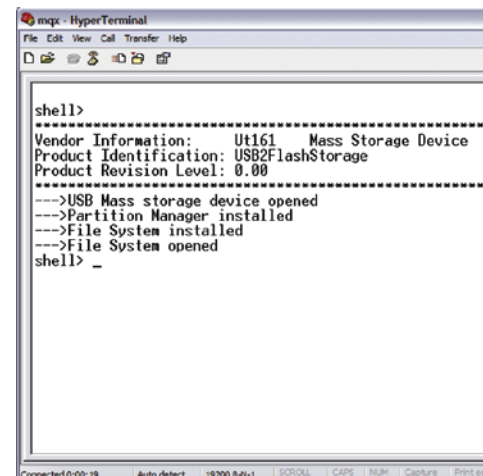

Figure 3: Inserting a USB mass storage device
6. On the HyperTerminal console you should see text that indicates that the USB memory stick was found, the type of memory stick that was found, the USB mass storage device was opened, the partition manager was installed, and that the file system was installed and opened. It may take several seconds to fully install the memory stick. It will look like Figure 3.